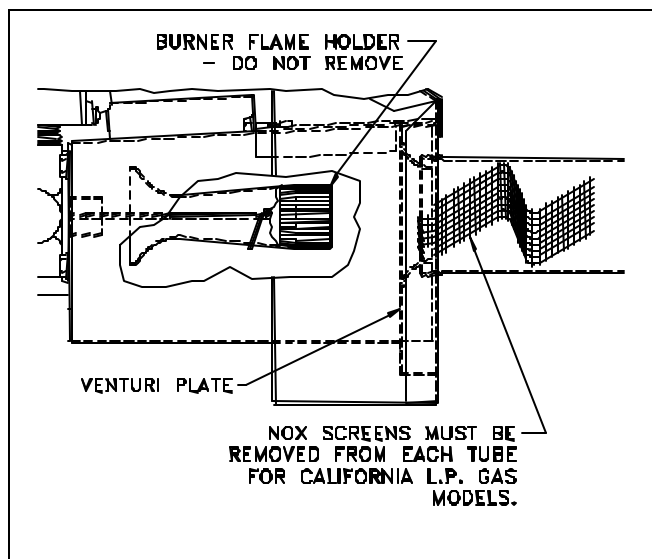

Figure 20. California NOx Screen Removal.
NOTE: NOx reducing screens must be removed from each tube of California NOx furnaces when converting to propane (LP) gas. See Figure 20.